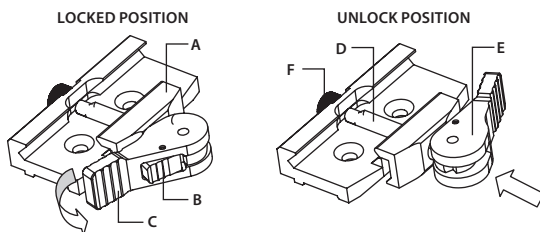

FIGURE 3-5. MOUNT, UNDERSIDE VIEW
1. Unlock the clamping device (A, see Figure 3-5) of the scope mount by pushing down on the lever holders (B) and unlocking the levers (C).
2. Install the scope on the Picatinny/Weaver rail so that the stop (D) slides into the transverse slots on the rail.
3. Affix the scope to the rail by locking the levers (C).
2. With the clamping device unlocked (as shown in Figure 3-5), push the cam (E) towards the arrow, which will cause the nut (D) to slide out of its hole.
3. To tighten/ loosen the clamping device, push down on the cam (E) and turn the nut (F) CW/ CCW respectively, in one-two increments (see note below). Much like when the cam (E) is released, backward-moving springs will cause the nut (F) to slide back into its hole.